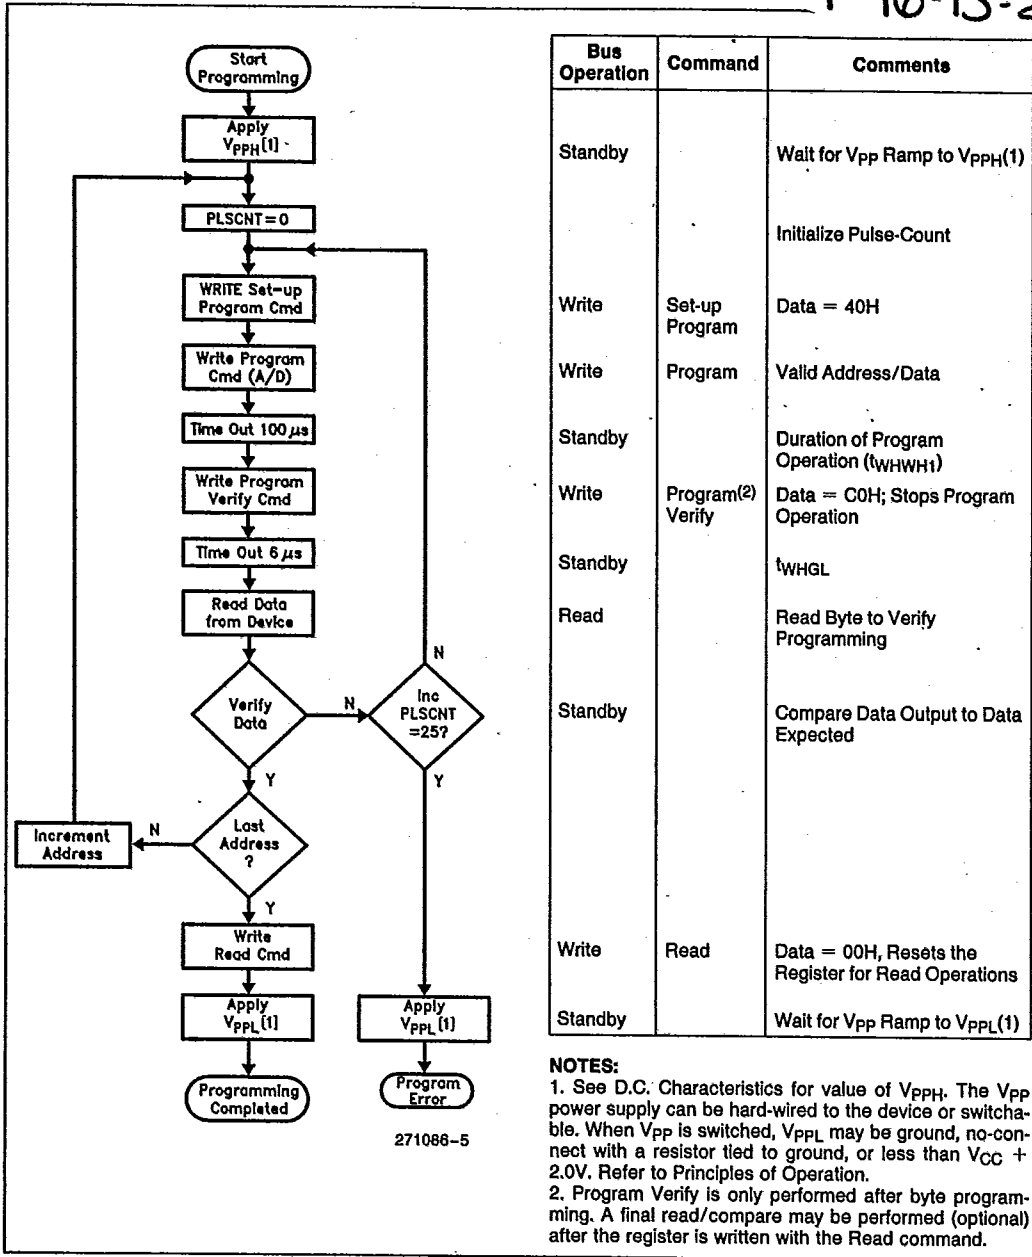

Figure 5. M28F256 Quick-Pulse Programming™ Algorithm
- Figure 5 illustrates the Quick-Pulse Programming™ Algorithm.
The M28F256 applies an internally-generated margin voltage to the byte. A microprocessor read cycle outputs the data. A successful comparison between the programmed byte and true data means that the byte is successfully programmed. Programming then proceeds to the next desired byte location. Figure 5, the M28F256 Quick-Pulse Programming™ Algorithm, illustrates how commands are combined with bus operations to perform byte programming. Refer to A.C. Programming Characteristics and Waveforms for specific timing parameters.
ation is followed by a byte verification to determine when the addressed byte has been successfully programmed. The algorithm allows for up to 25 programming operations per byte, although most bytes verify on the first or second operation. The entire sequence of programming and byte verification is performed with V_{PP} at high voltage. Figure 5 illustrates the Quick-Pulse Programming algorithm.